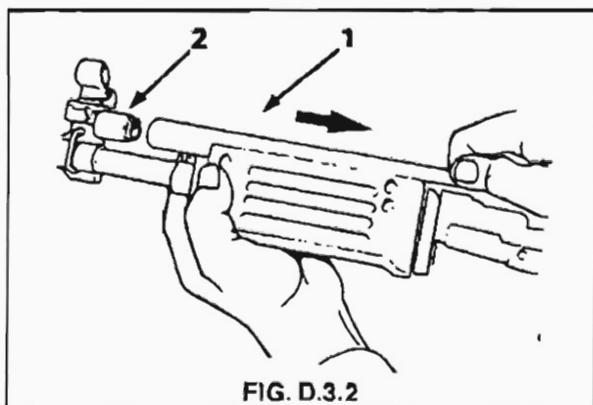

FIG. D.3.2
2. Remove piston guide tube by pulling it rearwards, until it is clear of gas block and guides on top of receiver. See Fig. D.3.2.